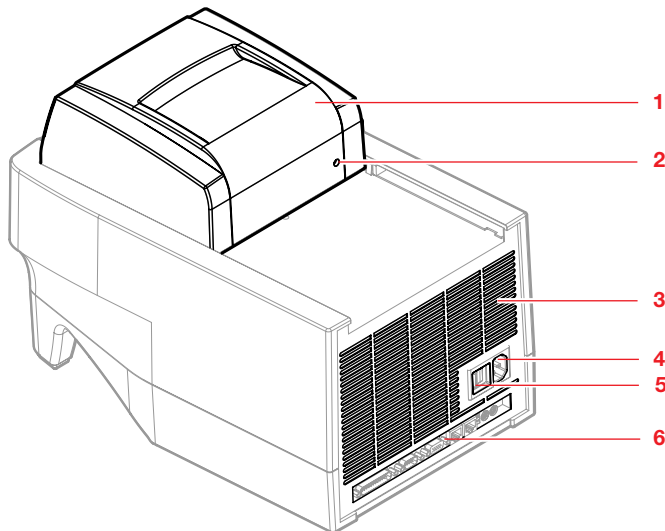

Fig. 2: Rear view
- Then connect the mains cable to the mains supply and the mains connection socket (see Chapter 2.3.1, Fig. 2). Switch on the device at the mains switch.
(see Fig. 2 rear view).
Before switching on the device it must be ensured that the mains voltage is the correct one for the device. To this purpose please compare the information given on the name plate (see Ch. 2.3.1, Fig. 2).